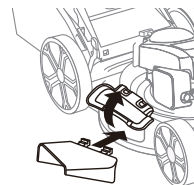
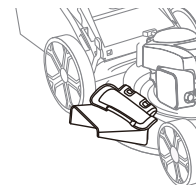

Fig.10A
Fig.10B
2. Open the mulch door. (Fig.10A)
3. Install the side discharge chute under the mulch door by sliding two hooks under the hinge pin on door assembly (Fig.10A). The mower is now ready for discharge operation. (Fig.10B)